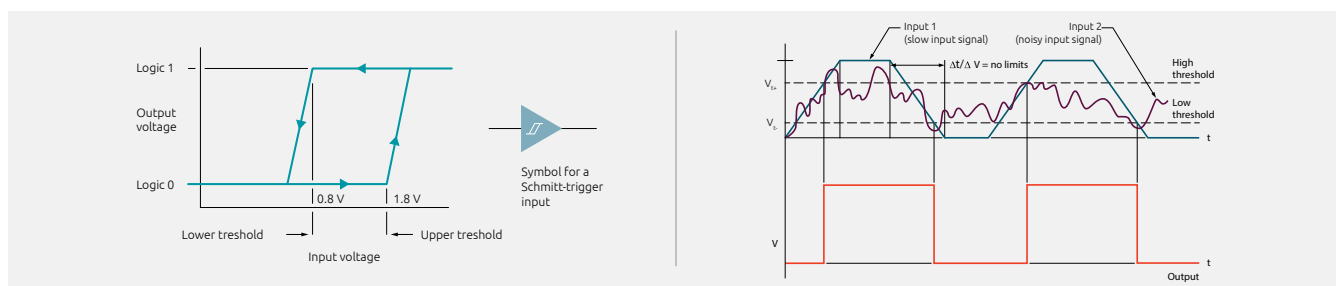

Fig. 4 Schmitt trigger inputs hysteresis curve (left) and signal response (right)
- › Schmitt trigger inputs, to remove noise from signals (Fig. 4) and improving signal integrity related to slow rising signals in noisy automotive environments. Nexperia has a wide voltage range of devices available from below 1 V to 5.5 V.